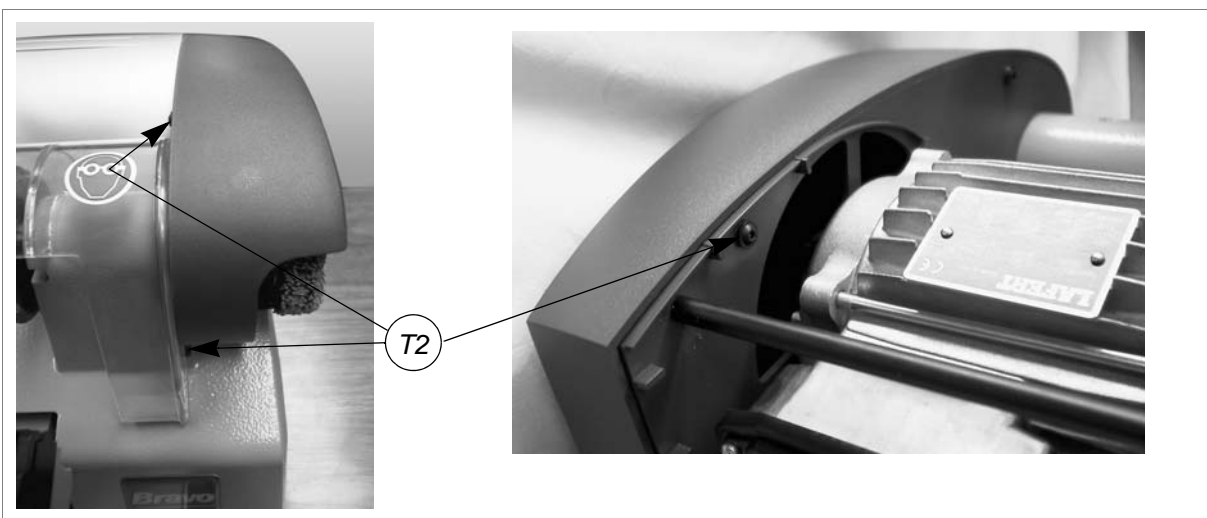

Fig. 31
- 4) Loosen the 3 screws (T2) (fig.31) on the belt cover and remove (pull out towards the front of the machine).
- 6) Loosen the nuts (U1) on the stay bolts (U2) and remove together with their washers (fig.31).
- 4) Loosen the 3 screws (T2) (fig. 31, page 24) on the belt cover and remove (pull towards the front of the machine).
- 6) Replace the belt cover and fix with the 3 screws (T2) (fig. 31, page 24).
- 7) Loosen the 3 screws (T2) (fig. 31, page 24) on the belt cover and remove (pull towards the front of the machine).
- 16) Replace the belt cover and fix with the 3 screws (T2) (fig. 31, page 24).